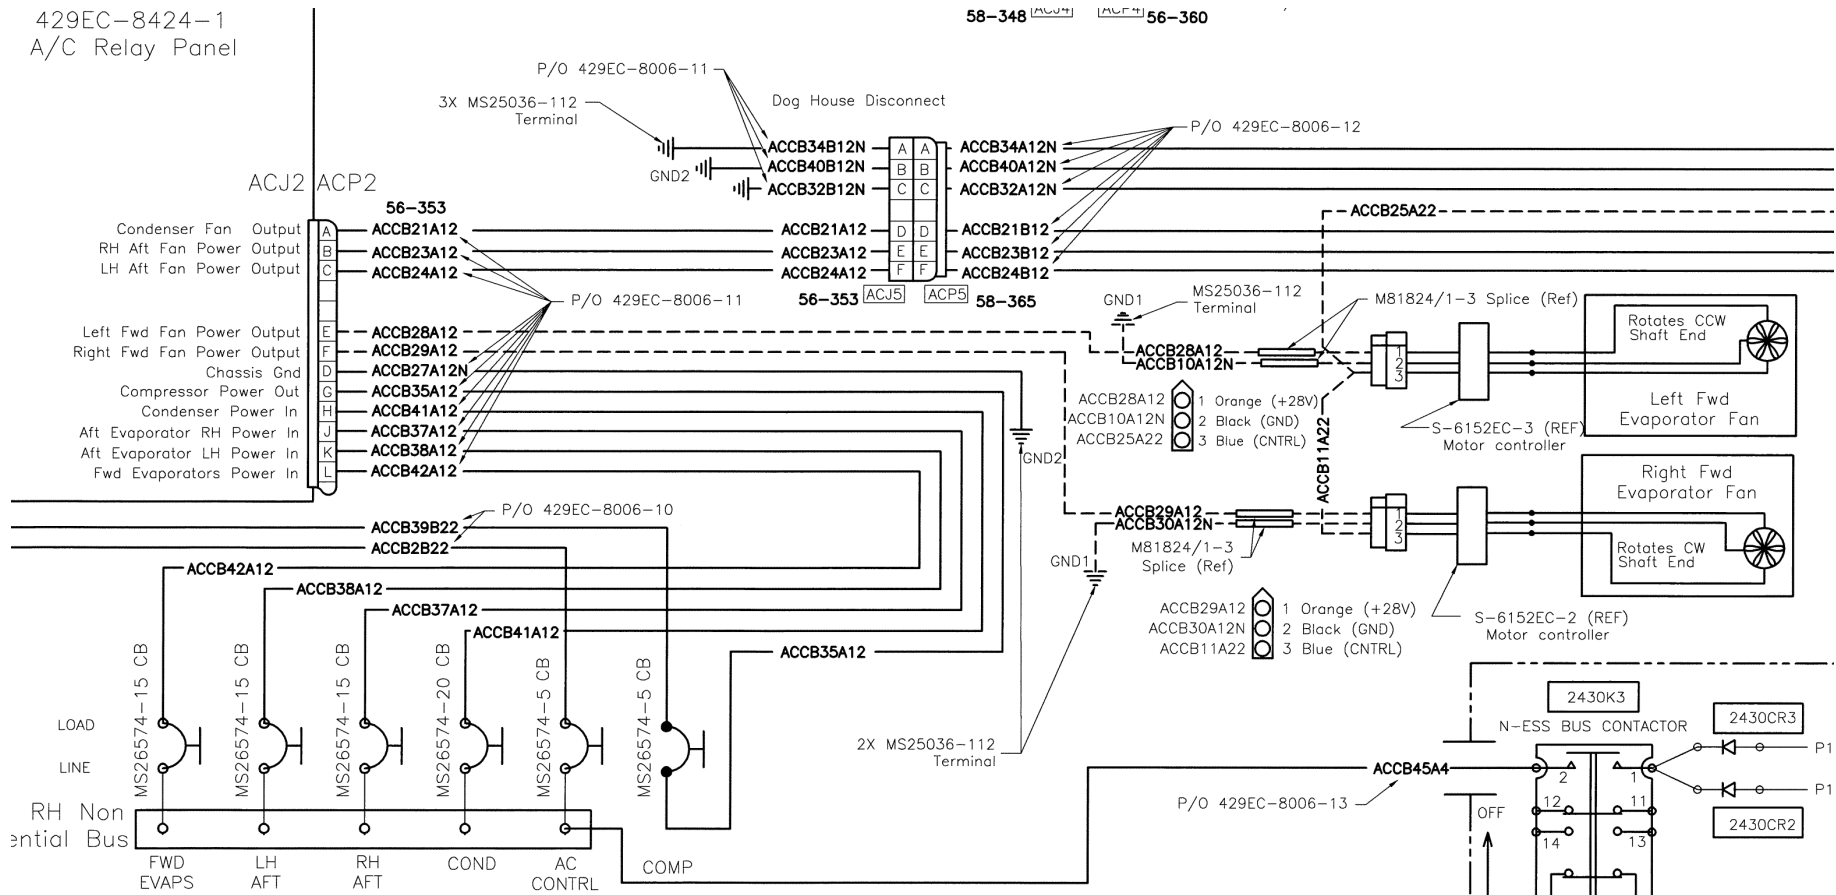

Figure 16: Existing Dual Evaporator Electrical Wiring Schematic (From Drawing 429EC-810-1)
10. Remove left and right forward evaporator local ground leads ACCB10A12N and ACCB30A12N from GND 1. Find wires between M81824/1-3 Splices and Molex connectors. Cut wires close to the M81824/1-3 splices. See Figure 16.
12. Remove and discard left and right aft evaporator local ground leads ACCB32B12N and ACCB40B12N from GND 2 and ACJ5. See Figure 16.